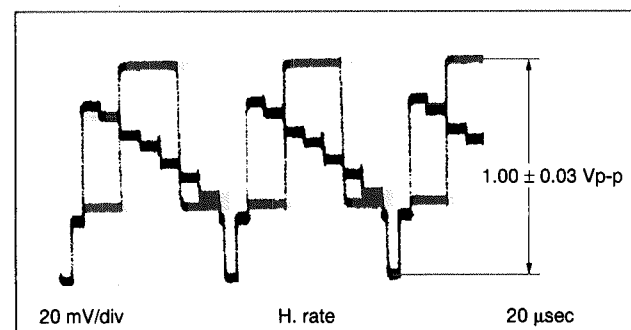

Fig. 3-3-6 PB Y level
- (1) Connect an oscilloscope to Y OUT TERMINAL.
- (2) Set the EVR mode by pressing the "K" button of the presetting unit.
- (3) Set "A : 11" by twice pressing 1 button of the remote controller.
- (4) Record a colour bar signal in the S-VHS mode, and playback the recorded colour bar signal.
- (5) Adjust the CH "+" or "-" buttons for 1.00 ± 0.03 Vp-p as shown in Fig. 3-3-6.
- (6) Set the normal VCR mode by pressing the "K" button of the presetting unit again so adjustment data is memorized.
- (7) Repeat steps (1) to (6) in the VHS mode.